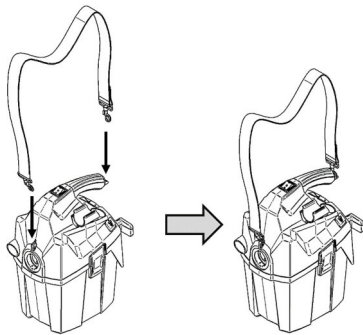

Fig. 9: Using the shoulder strap
Step 6: Insert the fasteners (Fig.9) of the carrying strap on the left and right side of the dry vacuum cleaner.